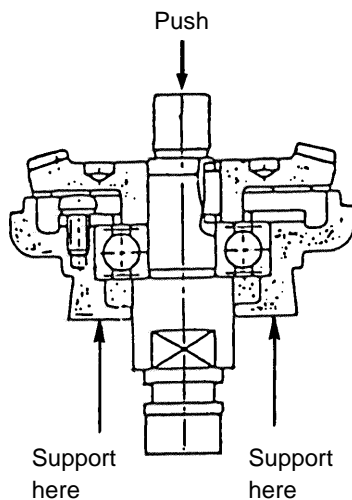

Fig. 2-2
- (a) Support the Packing Gland (26) as shown in Fig. 2-2, and push the Spindle (29) downward approximately 2 mm.